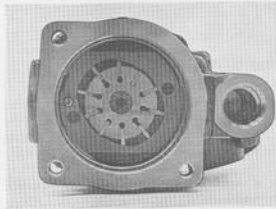

Fig. 6-110. Rotor blade fitted
8. Place the O-ring (17) in position in the housing.
9. Fit the rotor (25) with the smooth drill against the drive side. Fit the 10 blades (15) with the rounded surface facing outwards towards the intermediate piece (Fig. 6-110).